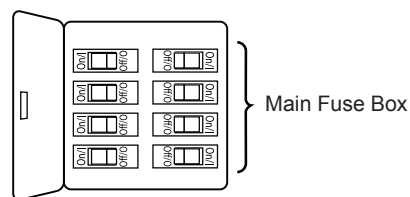

Figure 1
1. Remove the hanger ball portion from the downrod/hanger ball assembly by loosening the set screw in the hanger ball until the ball falls freely down the downrod. Remove the pin from the downrod, then remove the hanger ball. Retain the pin and hanger ball for reinstallation in Step 6. (Figure 1)
To avoid possible fire or shock, be sure electricity is turned off at the main fuse box before hanging. (Figure 1)
1. To set the code on receiver unit, slide dip switches to the same positions as set on the remote. (Figure 1)